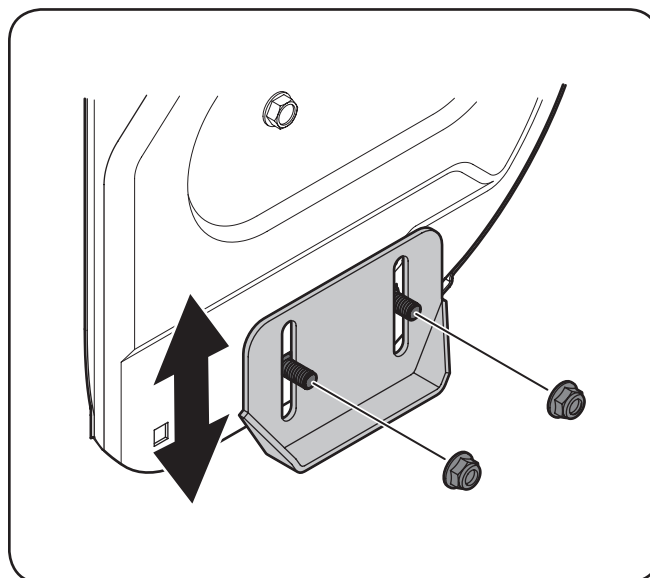

Figure 3-9
1. Loosen the four hex nuts (two on each side) and carriage bolts. Move skid shoes to desired position. See Figure 3-9.